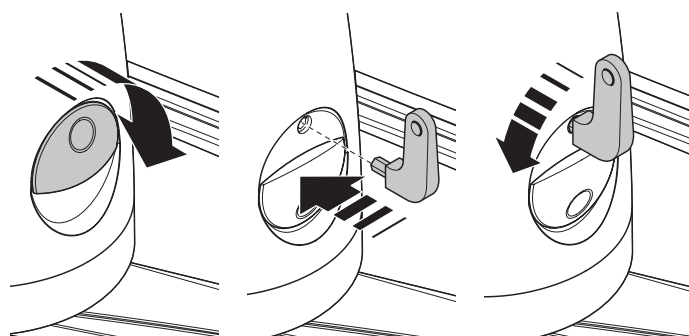

Fig. 12
01. Release the gear motor as shown in **Fig. 12**;